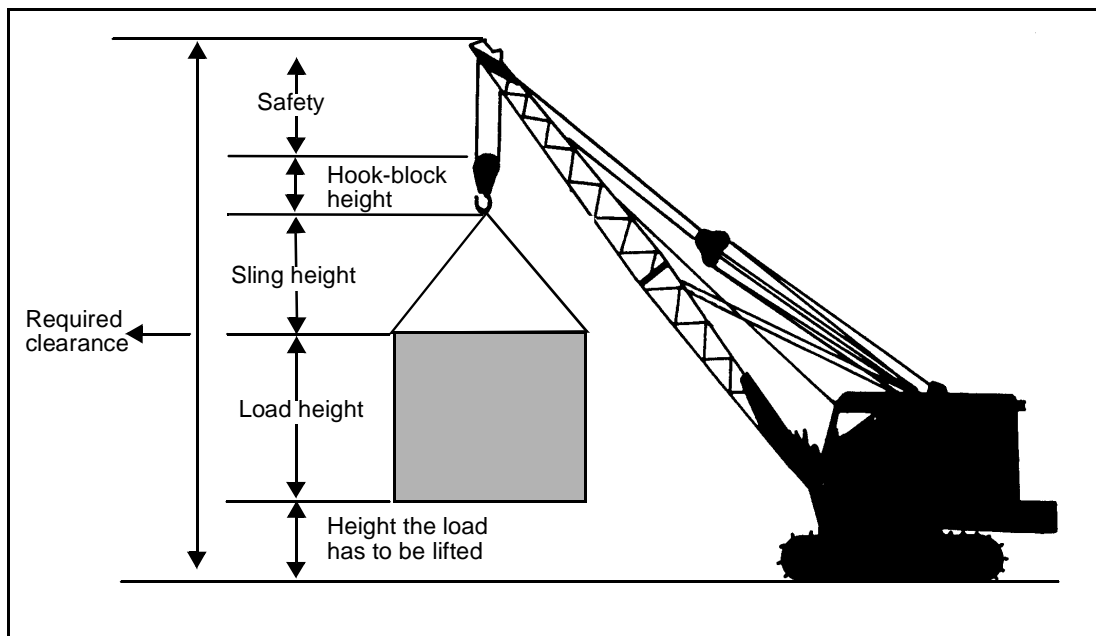

Figure 7-8. Required Clearance
Step 1. Determine the required clearance (*Figure 7-8*), which includes the—